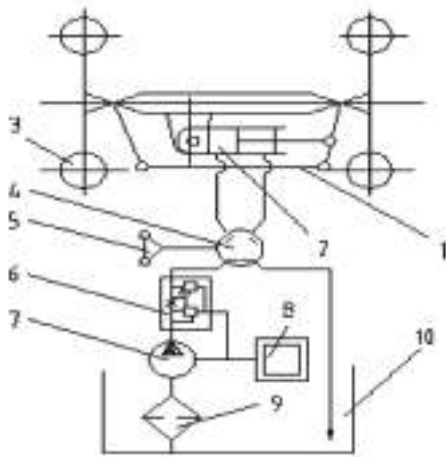

Fig. 6-4-1 Working principle of the Full hydraulic steering gears
6.4.1 Working principle of the full hydraulic power steering. (See Fig. 6-4-1)